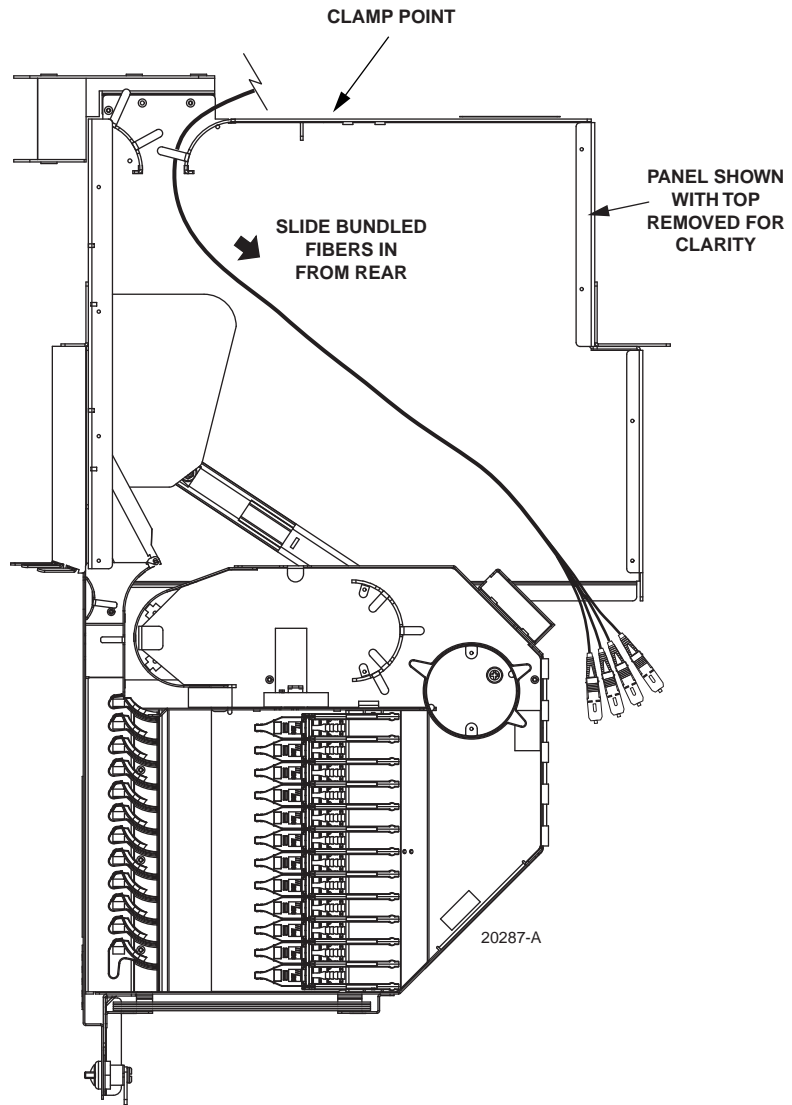

Figure 22. Routing IFC Cable Into Standard Termination Panel
4. At the rear of the panel, insert the bundled connector end of the cable into the panel rear entry hole, as shown in Figure 22, and slide it through to the front.